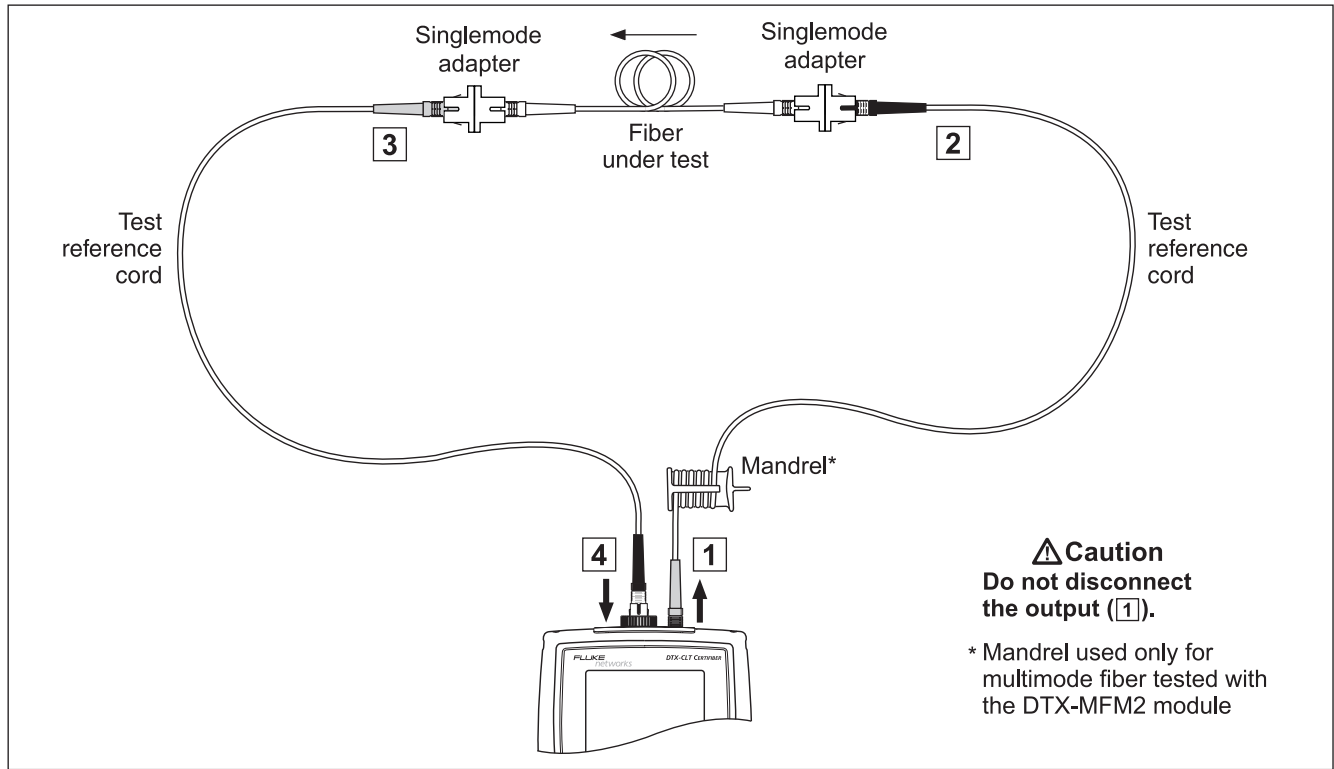

Figure 19. Testing a Fiber in Loopback Mode (1 Jumper Method)
- 11 Clean and inspect the connectors on the cabling to be tested; then connect to the cabling. The tester shows connections for the test method you selected. Figure 19 shows connections for the 1 Jumper method.